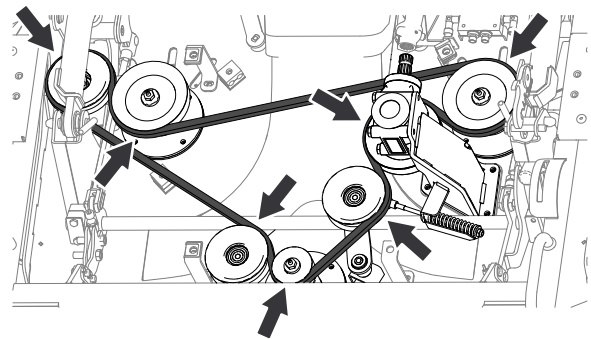

Figure 134
1. Route the new belt around the pulleys as shown in Figure 134.